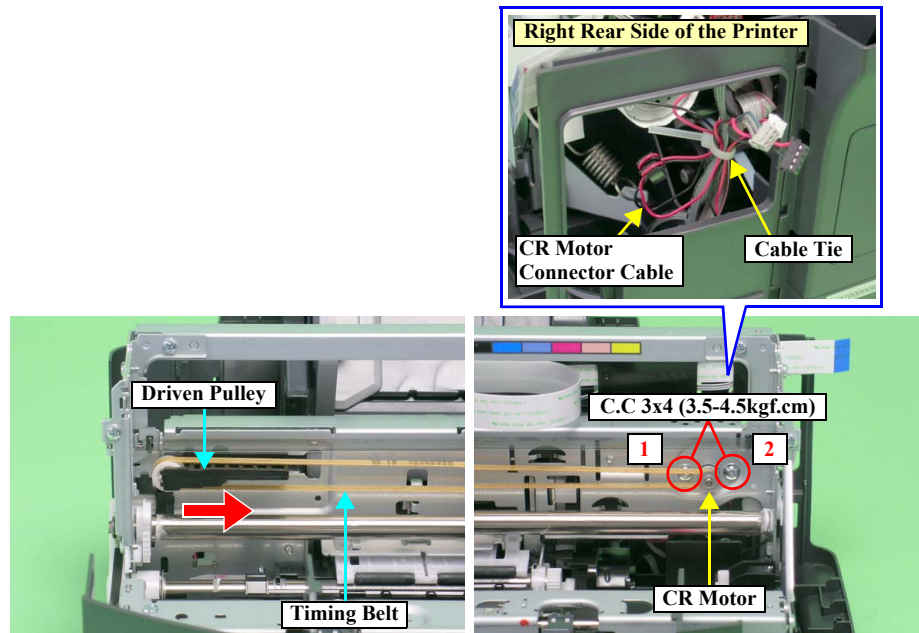

Figure 2-50. Removing the CR Motor
- Tighten the screws to secure the CR Motor in the order shown in Figure 2-50.
- CR Motor (route the cable as shown in Figure 2-50.)